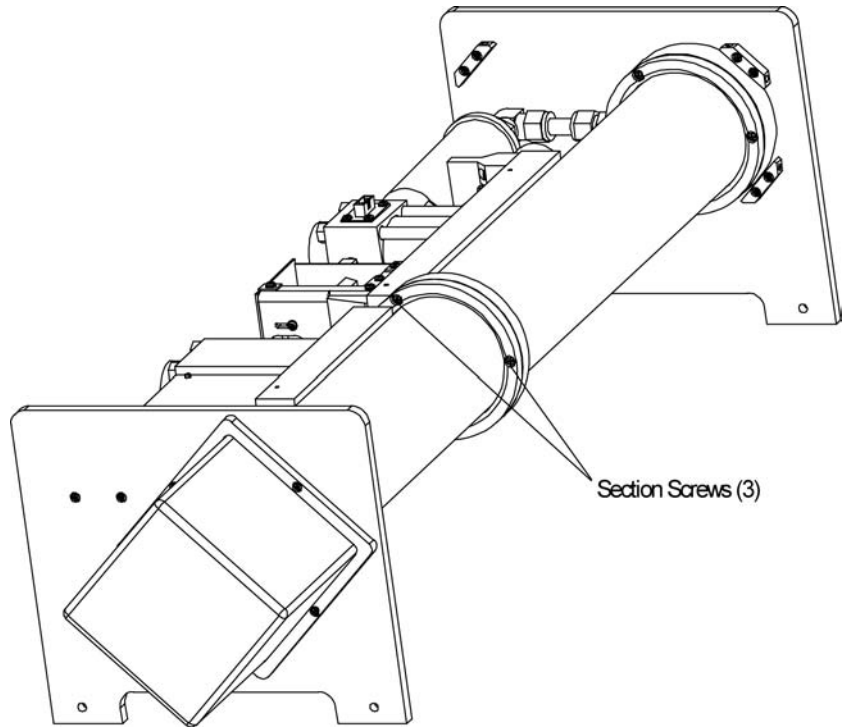
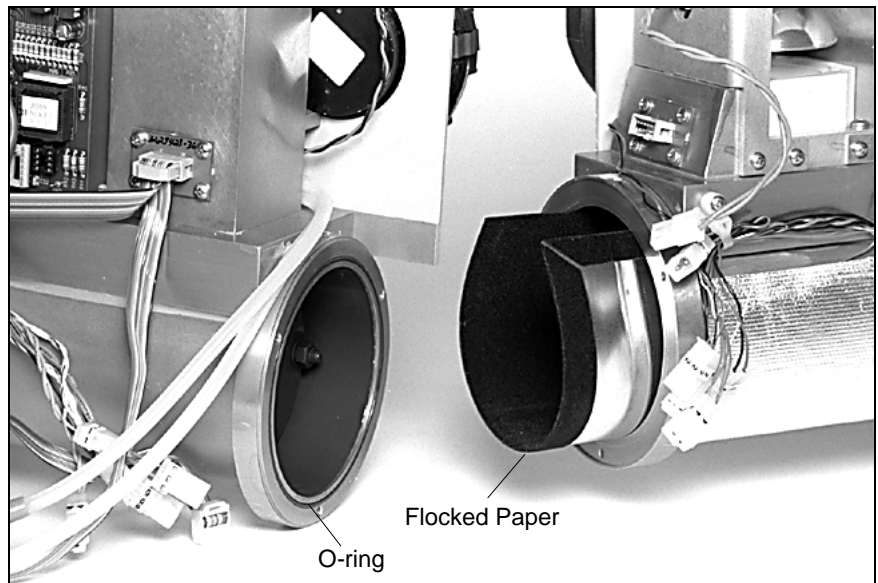

Figure 8-33
Figure 8-34
6. To separate the Nephelometer inlet section from the outlet section, loosen the three screws attaching the two sections to each other (Figure 8-33) and *carefully* pull the sections apart (Figure 8-34). The flocked paper will be visible.
9. Put a light coating of grease on the O-ring between the Nephelometer inlet and outlet sections and replace the O-ring in the groove (Figure 8-34).